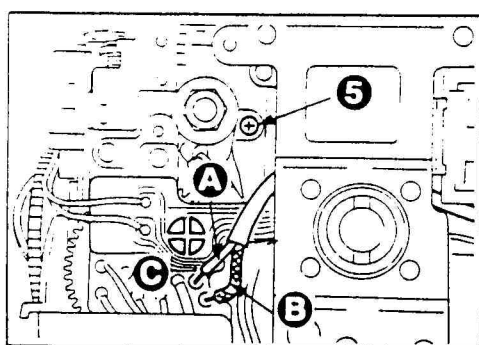
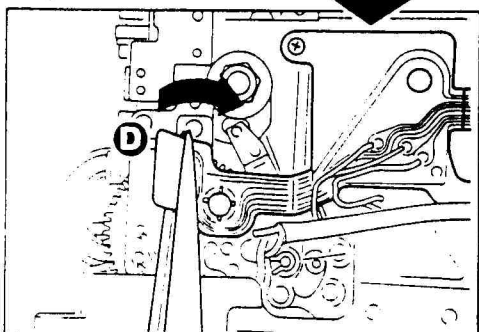

Fig. 2 BOTTOM VIEW
Fig. 3
2. Set the release selector at the release position (set the index mark **A** to the ☐ mark **B**.), and remove the left cover. (See Fig. 2.)
2. Unsolder orange (C) and black (D) lead wires from the switch S4. (See Fig. 2.)
3. Unsolder pink (E) and black (F) lead wires from the MR unit (B) (magnet). (See Fig. 3.)
3. Remove the synchro-cords (A) and (B) from the relay substrate. (See Fig. 2.)
4. Unsolder four connected points of the main flexible substrate (C), using the desoldering wire (solder-wick).
5. Peel off the main flexible substrate in the arrow direction. (As this is adhered with pressure sensitive double coated tape, be careful not to break the flexible substrate. (See Fig. 3.)
2. With desoldering wire (solder wick) remove the lead wires (A), (B), (E) (each 2 wires), (F) (2 places), and connected parts of flexible substrate (C), (D), (G). (See Figs. 2 and 3.)